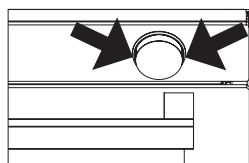
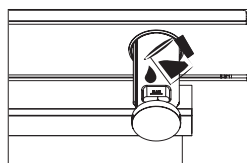
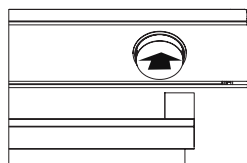
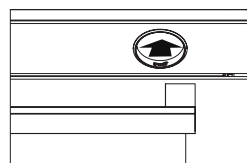

Figure 8
Figure 9
Figure 10
Figure 11
1. Remove the water container by pulling it out at the points indicated by the arrow. Fill the water container (see figure 8) and slide it in the direction of the arrow to the starting position to put it in place (see figure 9). (See Figure 10) After 10 minutes of preheating, slide the water container in the direction of the arrow until you hear a "click". (see figure 11)